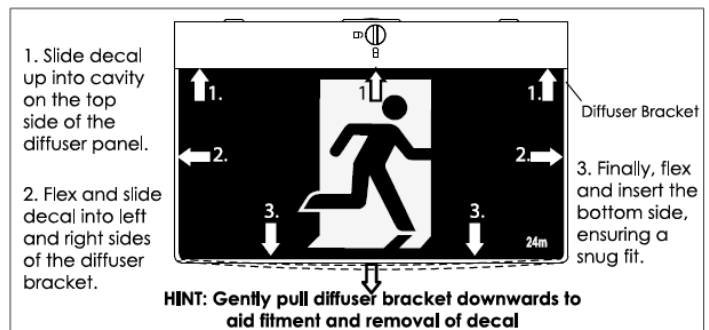

FIGURE 4
5. All fittings are supplied with pack of Running Man decals for single or double sided applications. **It is not necessary to remove the diffuser bracket to insert the desired Running Man decal.** Refer to Figure 4 for detailed instructions.